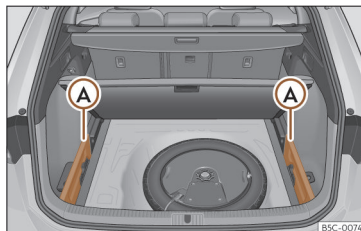

Fig. 121 In the luggage compartment: space to store the retractable shelf.
- Remove the left and right covers »» Fig. 121 Ⓐ.